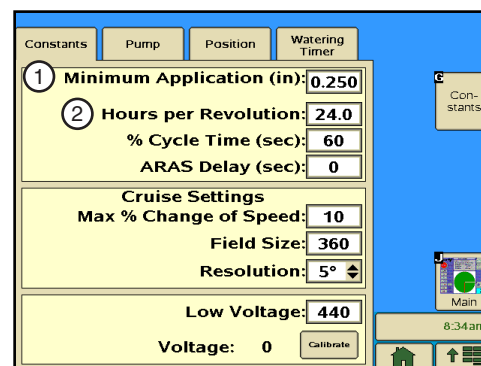

Figure 21-3 Constants Tab
1. Push the **Constants** tab to display the Constants settings. Refer to Figure 21-3.